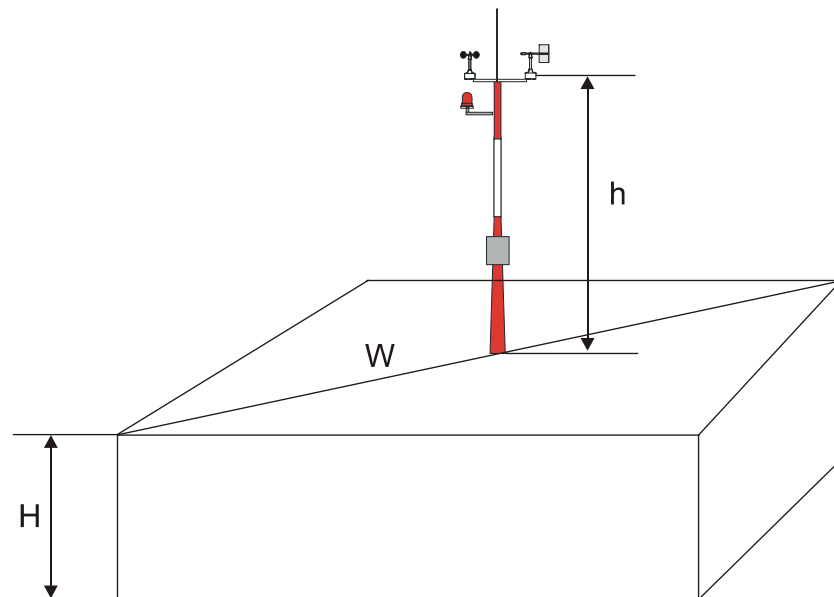

Figure 3 Recommended Mast Length on Top of a Building
The recommended minimum length (marked with the letter h in Figure 3 on page 15) for the mast that is installed on top of a building is 1.5 times the height of the building (H). When the diagonal (W) is less than the height (H), the minimum length of the mast is $1.5 W$.